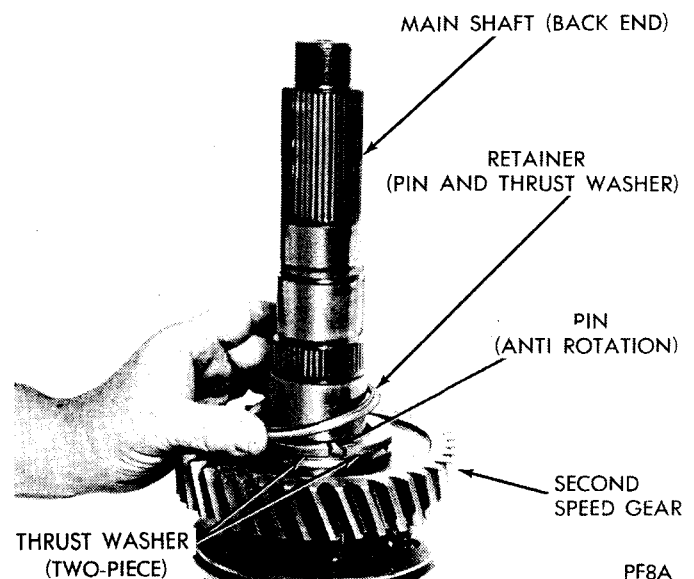

Fig. 8—Installation or Removal Second Speed Gear
Mainshaft (Fig. 8)
(5) Place fourth-fifth speed synchronizer clutch gear (with oil slots down) on mainshaft. Select a snap ring of greatest possible thickness (available in four sizes, marked A,B,C,D) to eliminate all end-play of the clutch gear.
(6) Remove mainshaft from vise and install second-third speed synchronizer group. Synchronizer sleeve is marked "FRONT" for proper installation.
(7) Place second speed gear on shaft.
(8) Place thrust washer retaining pin in hole in mainshaft; position the two thrust washer halves on the mainshaft and install the thrust washer retaining ring, with large diameter contacting second speed gear (Fig. 8).
(9) Install reverse gear.
(10) Position reverse and first speed clutch gear on mainshaft; install retaining snap ring. Select a snap ring of greatest possible thickness (available in four sizes marked A,B,C,D) to eliminate all end-play of the clutch gear.
(11) Position sliding clutch on clutch gear; install first speed gear.
(12) Place spacer washer on mainshaft.